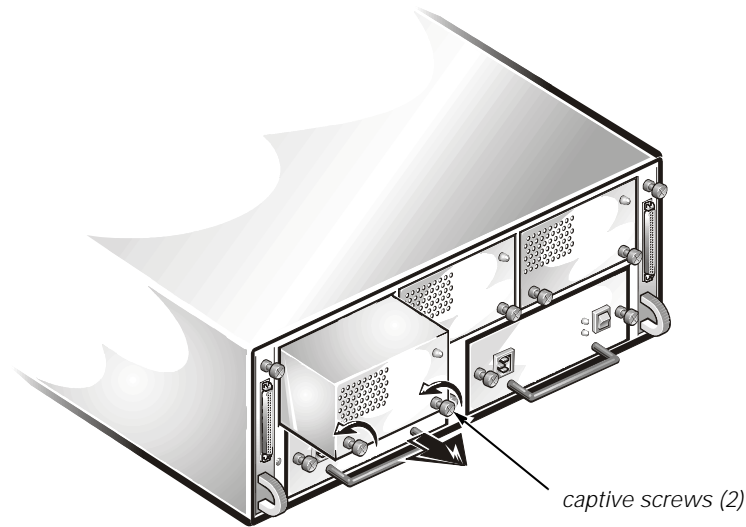

Figure 6. Removing a Cooling Fan
2. Holding the captive screws, carefully pull the cooling fan out of the cooling-fan bay (see Figure 6).